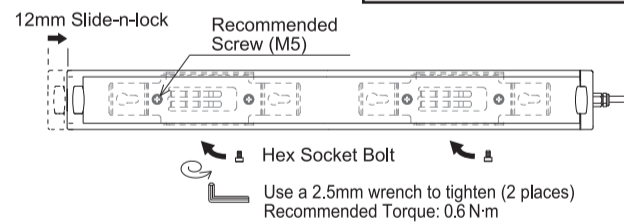

Figure 7. Slide Installation -2
- Specifications for the lens lengths of 200 mm and some 300mm include one Standard Bracket per unit, and for the 600mm lengths, two Standard Bracket sets are included. Moreover, when sliding the Main Unit onto the Standard Bracket, allow a clearance of at least 12mm on both ends to allow attachment and removal. Refer to Figure 4. "Slide Installation -1" and Figure 7. "Slide Installation -2."